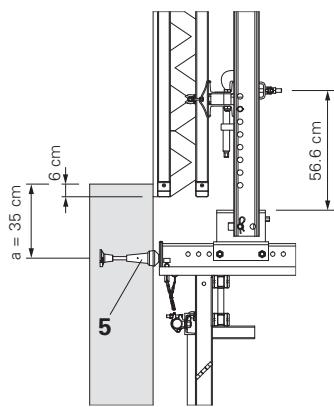

Fig. C1.09
As a rule, the edge distance of the anchoring (5) can be executed with $a = 35$ cm. If necessary, this can deviate from the plan. (Fig. C1.09)